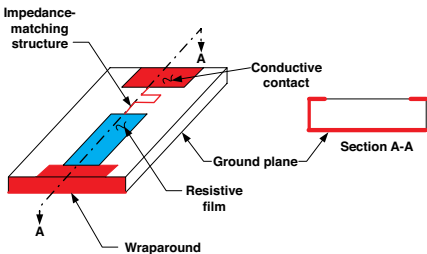

Figure 2: A Chip Termination
**Figure 2** depicts a chip termination. Terminations usually have two features not found on simple resistors: an edge wraparound that connects one end of the resistor to the ground plane and a structure or pattern that matches the impedance of the resistive film to some specified value, most commonly 50 ohms.